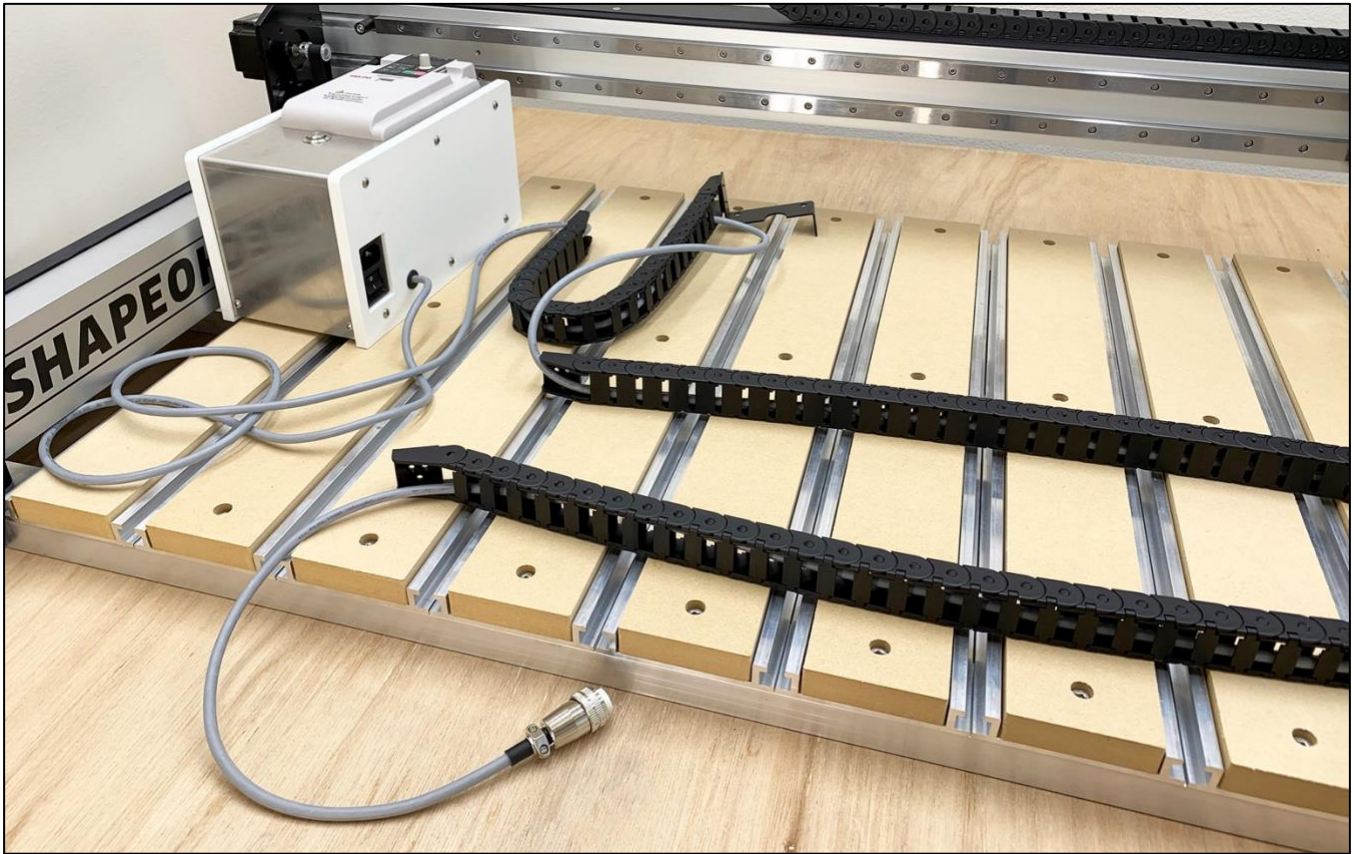

Figure 6
9. Route the gray spindle power cable exiting the side of the VFD controller through the drag chains. See **Fig. 6**.